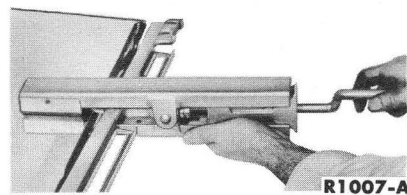

FIG. 1—Glass Channel Replacement
The vent window glass itself may be removed and/or installed by using the tool shown in Fig. 1. When installing new glass, use new glass tape, and apply sealer to the frame horizontal channel and to the other channel in the area of the upper pivot.
6. Using the tool shown in Fig. 1, remove the channel from the glass.